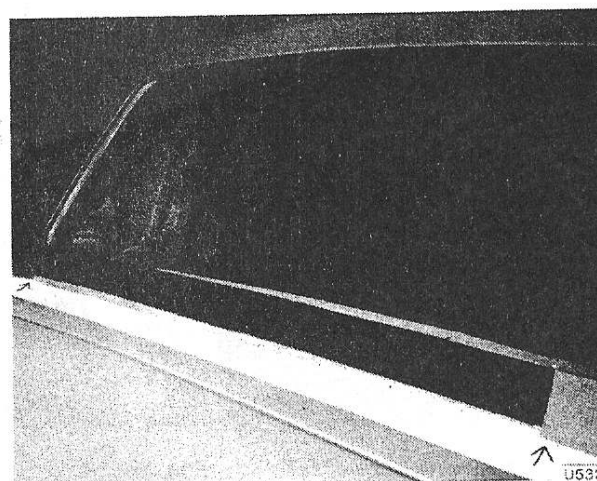

Fig. S114 Fitting Union Cloth beneath the rear window aperture
47. Cut and fit a piece of black Union Cloth to abut the ends of the side trim i.e. to fit between the stitched seams of the centre panel (see Fig. S114).
With the help of an assistant, position the bottom edge of the Union Cloth parallel and above the holes around the base of the rear window then, bring the surfaces together (see Fig. S114).